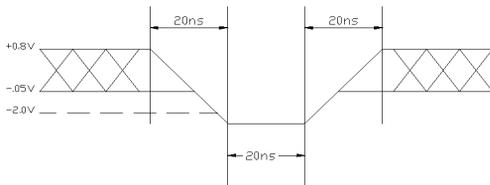
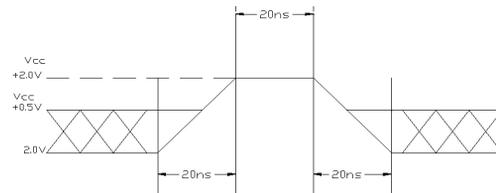

FIGURE 2.
FIGURE 3.
1. Minimum DC voltage on input or I/O pins is -0.5V. During Voltage transitions, inputs may overshoot Vss to -2.0V for periods of up to 20 ns. See Figure 2. Maximum DC voltage on input or I/O pins is Vcc +0.5V. During Voltage transitions, inputs may overshoot Vcc to +2.0V for periods of up to 20 ns. See Figure 3.
2. Minimum DC input voltage on A9 pin is -0.5V. During voltage transitions, A9 pins may overshoot Vss to -2.0V for periods of up to 20 ns. See Figure 2. Maximum DC input voltage on A9 is +12.5V inputs which may overshoot to +14V for periods of up to 20 ns. See Figure 3.